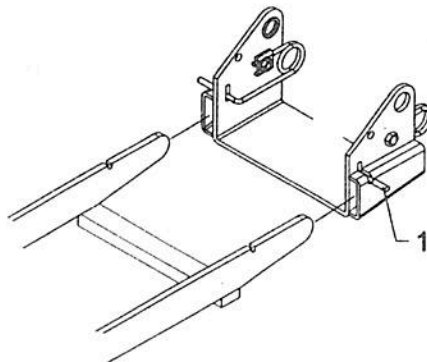

Figure 14
- a) Attach the blade to the tractor subframe by placing the male hitch flat bar into the subframe's female pivot support hitch (fig. 14). Be sure the male hitch is entered to its maximum and is locked in place by the springs.
- g) Attach broom to tractor subframe by placing the male hitch flat bar into the subframe pivot support female hitch (fig. 14). Be sure the male hitch is entered to its maximum and is locked in place by the spring.